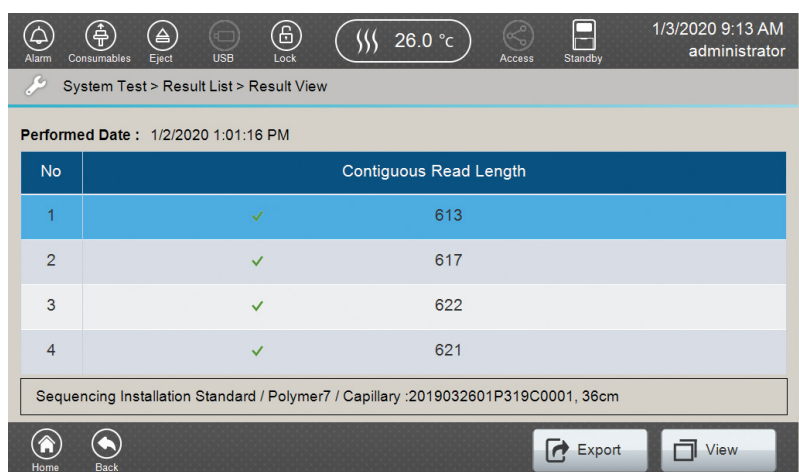

Figure 217. Sequencing System Test 'Result View' screen with selected sample.
- Select the line in the Result List corresponding to the system test sample you wish to review. This will activate **Export** and **View** in the footer (Figure 217).